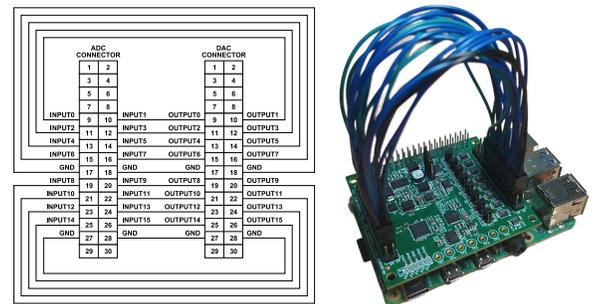

Figure 15. EVAL-CN0554-RPIZ Test Setup with Loopback Connection
3. Connect the ADC input and DAC output channels using the female-to-female loopback jumper cables, as shown in Figure 15.